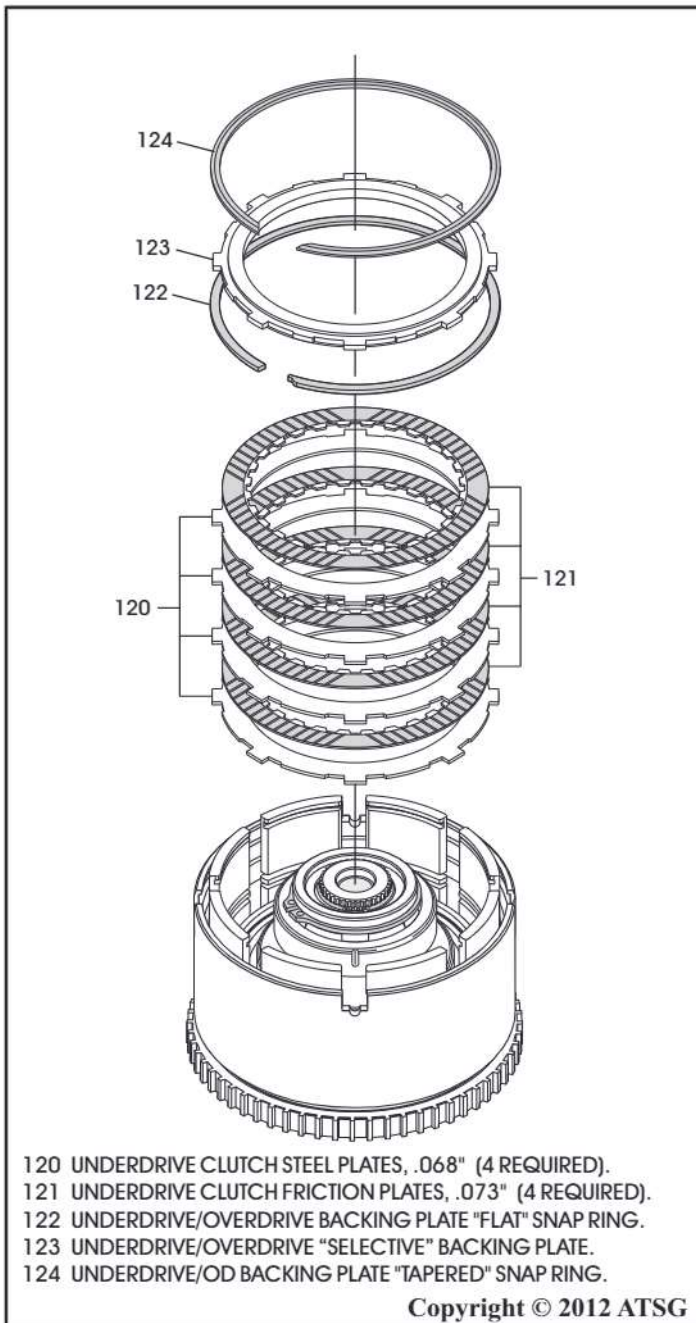

Figure 186
22. Install the underdrive clutch pack beginning with a steel plate and alternating with a friction plate, as shown in Figure 186, until you have installed four of each.
23. To prevent damage to the clutch plate, remove the last friction plate installed and install the underdrive backing plate **flat** snap ring, as shown in Figure 186, into bottom groove.
25. Install the underdrive/overdrive selective backing plate on top of the flat snap ring, as shown in Figure 186.
26. Install the underdrive/overdrive backing plate "tapered" snap ring with the taper facing up, as shown in Figure 186, and ensure fully seated.